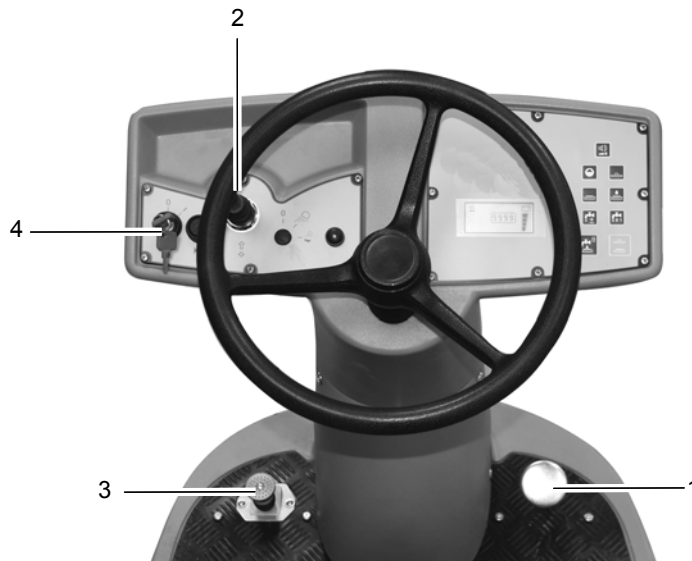

Fig. 15
1. Release the accelerator (Fig. 15/1) slowly to its zero position. The vehicle slows until it eventually stops. You can decelerate more quickly by applying the vehicle's brake (Fig. 15/3).
2. Move the driving direction selector switch (Fig. 15/2) to its zero position.
4. Switch the vehicle off with the key switch (Fig. 15/4).